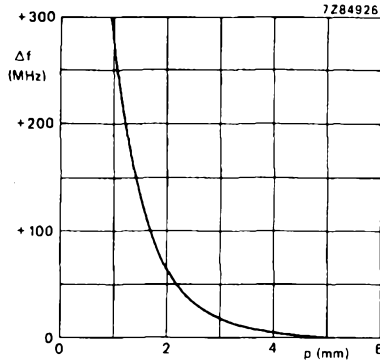

Fig. 4 Tuning of the oscillator as a function of the air gap between tuning screw and resonator: $f = f_0 + \Delta f$.
Fig. 4 Fine tuning Δf and associated power variation as a function of the coaxial tuning screw position at constant cavity tuning. $V_d = 12$ V; $P_o = 88$ mW; $f = (11\,000 + \Delta f)$ MHz.
4. A small screw on the top of the oscillator allows a limited range of tuning. Turning the screw clockwise, starting from the flush position of the internal pin ($\Delta f = 0$), increases the frequency. When tuning up to 0,5% (i.e. approx. $\Delta f = +50$ MHz), the stability of the oscillator remains unaffected; above that value the df/dT of the oscillator gradually increases due to Q-degradation of the dielectric resonator. A typical tuning curve is given in Fig. 4.